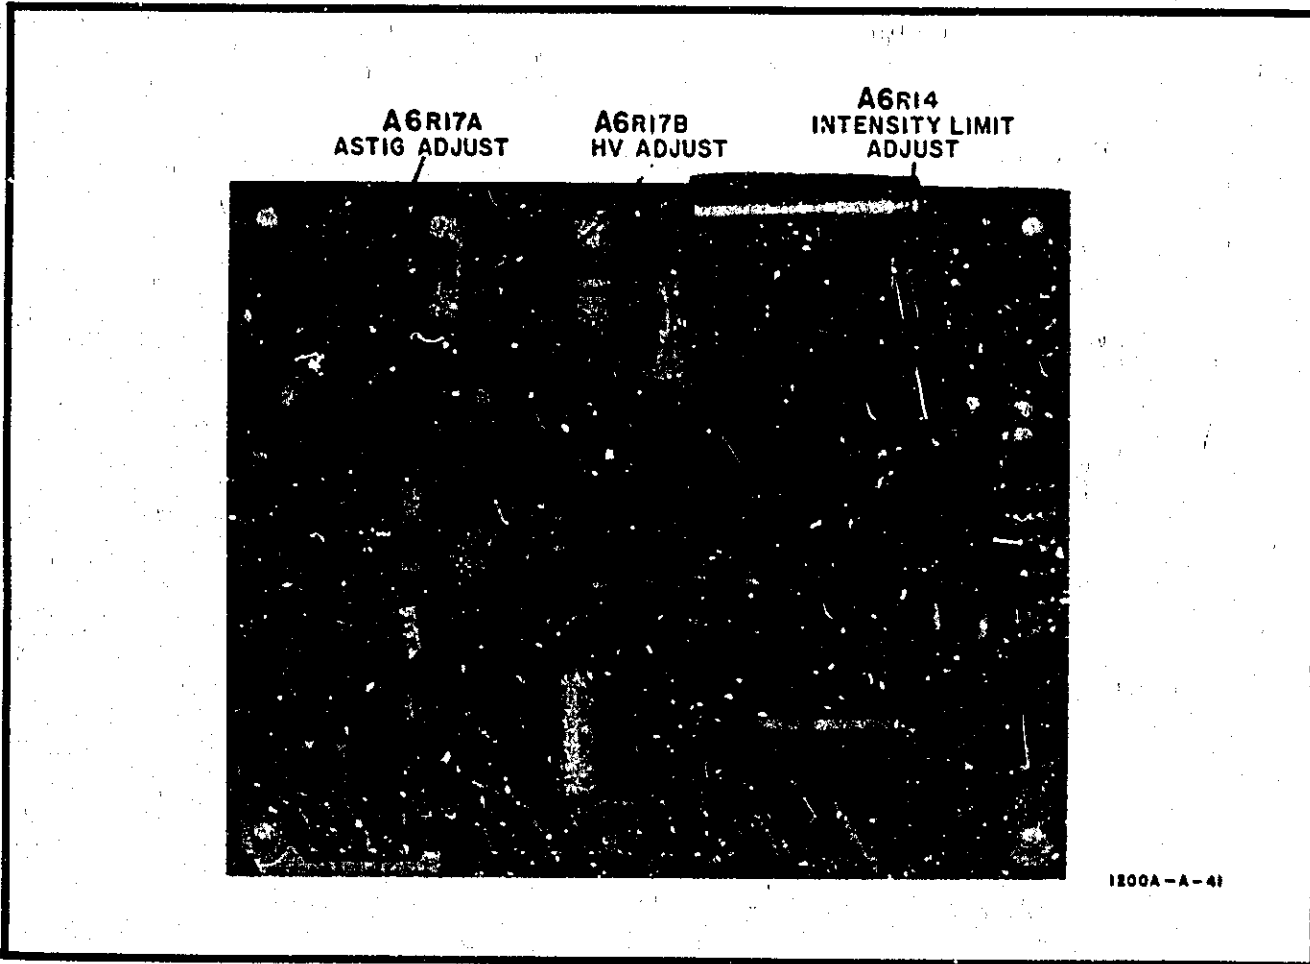

Figure 5-2. High Voltage Power Supply Adjustments
e. Adjust A6R17B (Figure 5-2) for same voltage calculated in step c (-2,915V ±5V discounting probe attenuation).
c. Adjust A6R17A (Figure 5-2) for largest, roundest dot possible.
- c. Adjust A6R14 (Figure 5-2) until dot just disappears.